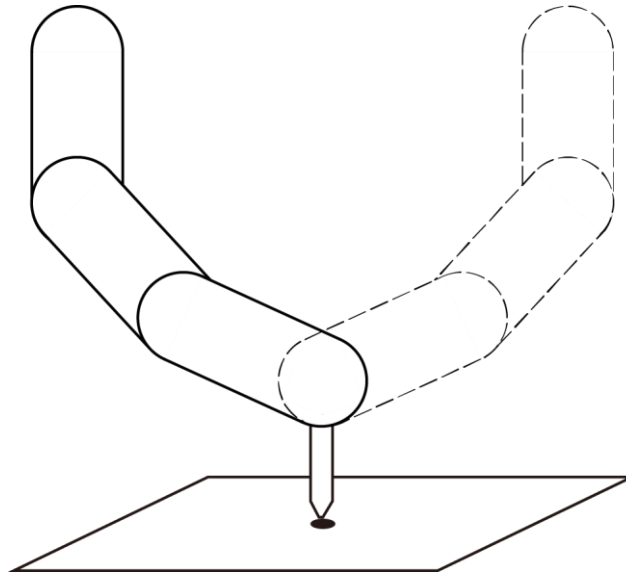

Figure 1.25 Calibration
Step 6 Jog the robot to lift a certain height and then jog to the same point in **Step 4** with righty hand orientation, as shown in Figure 1.25.